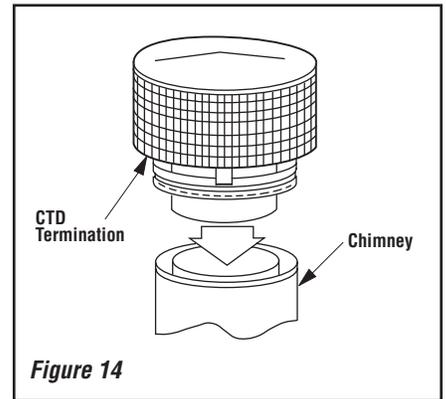

Figure 14
1. Hold the CTD over top of last chimney section (**Figure 14**).